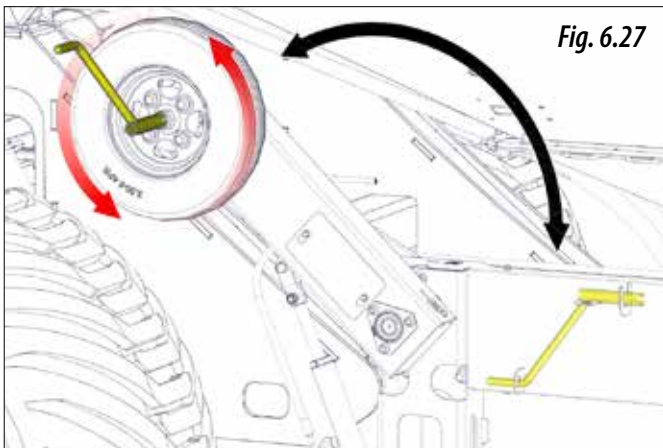

Fig. 6.27
- 4- Rotate the machine transmission a few turns to empty the product from the dispenser (Fig. 6.27).